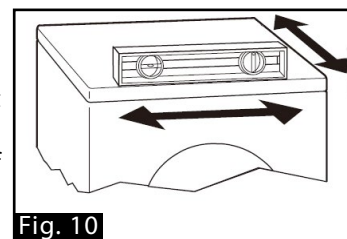

Fig. 10
5. Use a level (Fig. 10) to ensure the washer is level from front to back and left to right. If adjustments are needed, repeat steps 2 and 3.